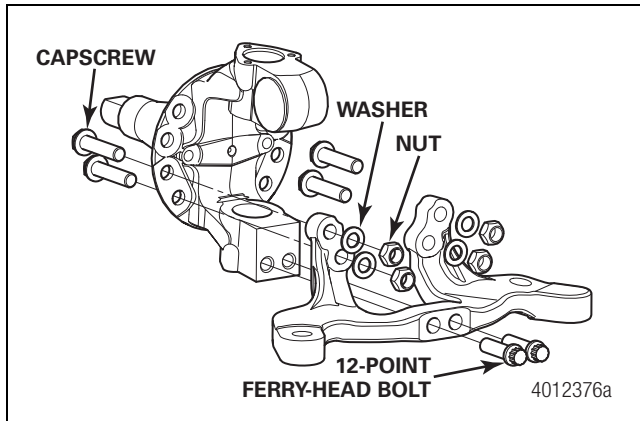

Figure 4.9
- Remove the two 12-point Ferry-head bolts from the lower middle portion of the integrated steering and tie rod arm assembly. Figure 4.9.
- Remove the four nuts and washers from the capscrews that secure the integrated steering and tie rod arm assembly to the knuckle. Retain the capscrew with a wrench or socket on the wheel hub side to prevent the fastener from turning when loosening the nut. Figure 4.9.